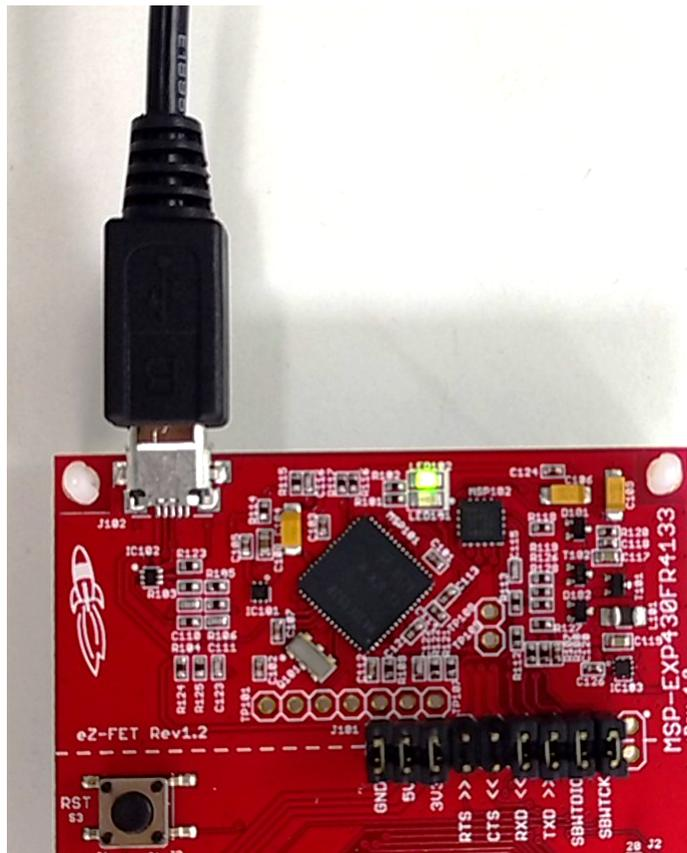

Figure 2. Jumper Settings for the MSP430FR4133 LaunchPad™ Development Kit
The BOOST-ADS7042 functions with default jumper settings of the MSP430FR4133 LaunchPad™ development kit. Figure 2 and Table 1 provide the default jumper settings for the MSP430FR4133 LaunchPad™ development kit.
2. Connect the MSP430FR4133 LaunchPad™ development kit to a PC using a USB cable; see Figure 2. Verify that jumpers are installed as per Table 1.